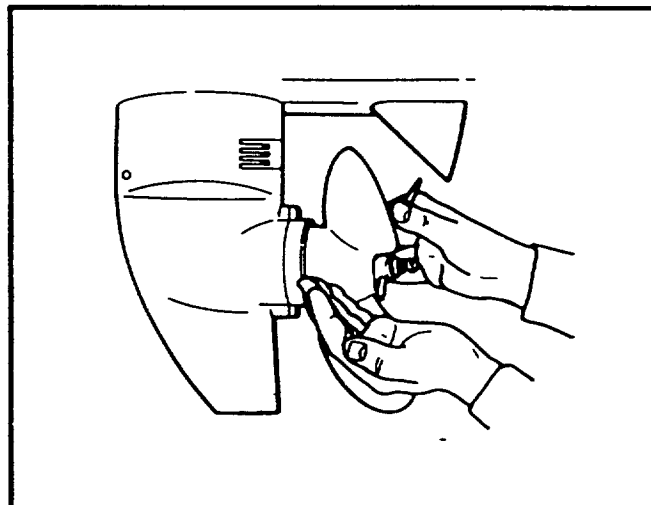

FIGURE 29
- Remove thrust pin from hub (Figure 29).